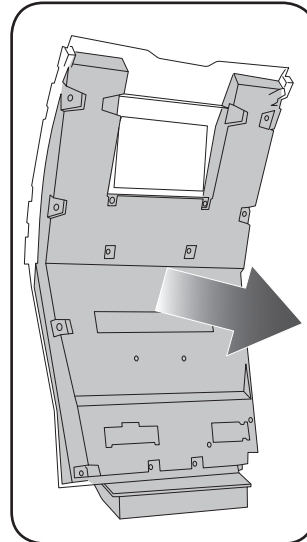

Fig. 2.3
3. Remove the backplate from the bezel (Fig. 2.3)